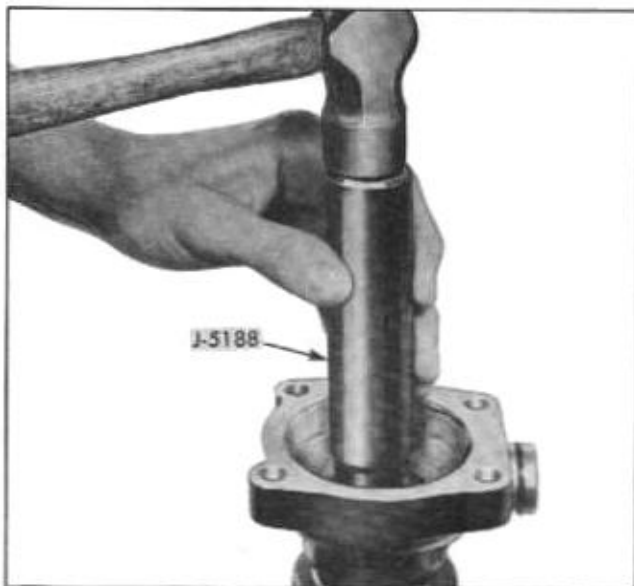

Fig. 9-55 Replacing End Cover Bearing or Seal
1. Lubricate needle bearing with wheel bearing lubricant and install in end cover using Tool J-5188 (Fig. 9-55). NOTE: The bearing identification marks must be against shoulder of tool.